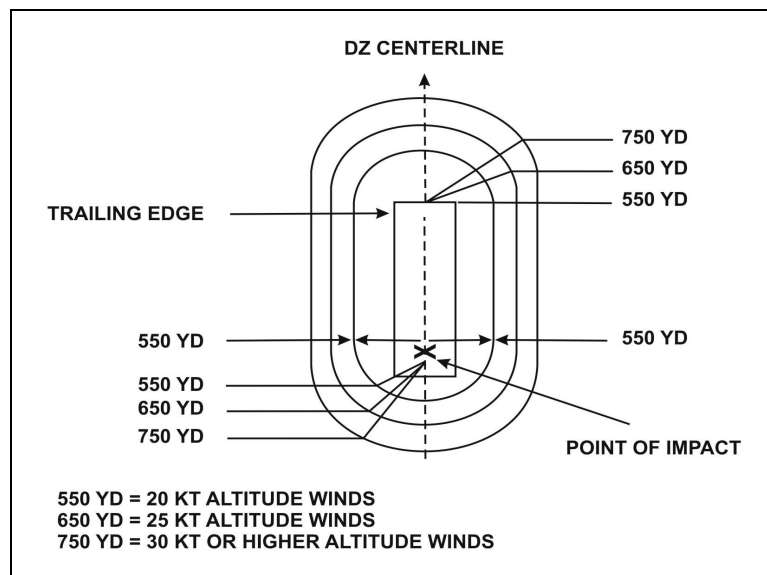

Figure 6-1. Recommended safety zones for high-tension lines.
(3) **Power Lines.** Any power lines that carry an active current of 50 volts or greater present a real and dangerous obstacle. Based on the reported altitude wind, pathfinders create a safety zone for parachutists by turning off all power within that zone. This helps prevent injuries. Figure 6-1 shows the recommended sizes of the safety zone for various altitude wind velocities during static line operations.